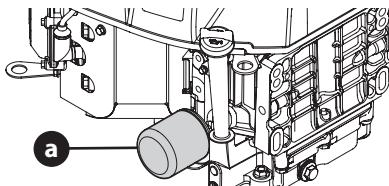

Figure 6
4. Pull up and remove air filter and base seal. (Figure 6).